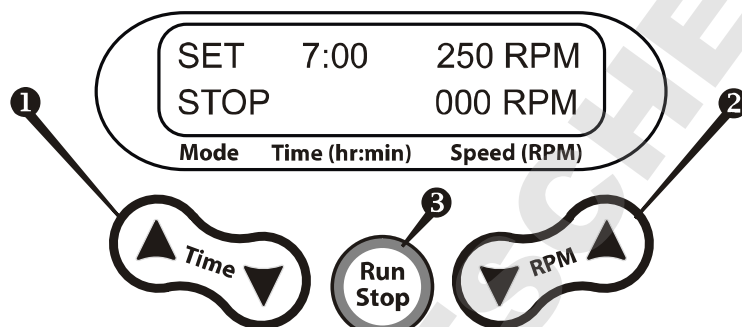

Fig.1 Control panel
- 4.3. With the help of “▲” and “▼” **Time** keys (Fig. 1/①) set the required working time interval in hours and minutes (increment - 1 min). If the key is pressed more than 2 sec the increment becomes bigger. The set time is displayed in the upper line of the display.
- 4.4. With the help of “▲” and “▼” **PRM** keys (Fig. 1/②) set the required shaking speed (increment 10 RPM). If the key is pressed more than 2 sec the increment becomes bigger. The set speed is displayed in the upper line of the display.
- 4.5. Press the **Run Stop** key (Fig. 1/③). The platform will start rotation (indication “RUN”) and the timer indicator will start counting up the time interval in the lower line of the display.